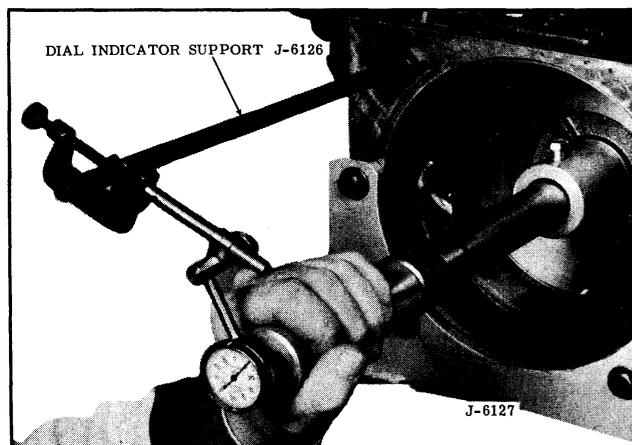

Fig. 3-35 Checking Mainshaft End Play
3. Install Tool J-6126 on front of transmission and install dial indicator. (See Fig. 3-35)